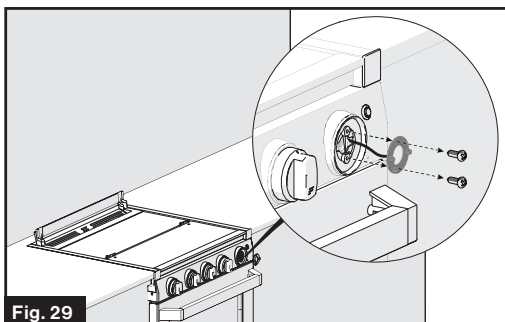

Fig. 29
- Remove the two screws holding the LED light using a Phillips screwdriver. (Fig. 29)